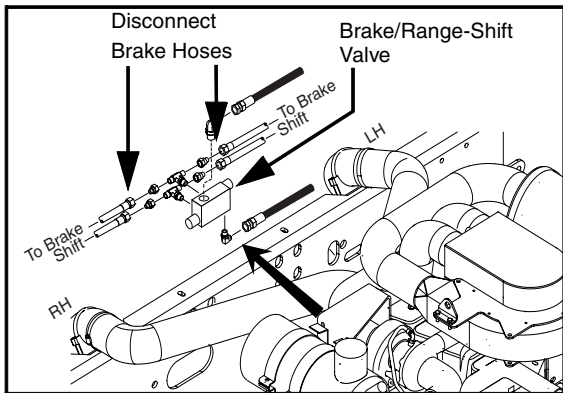
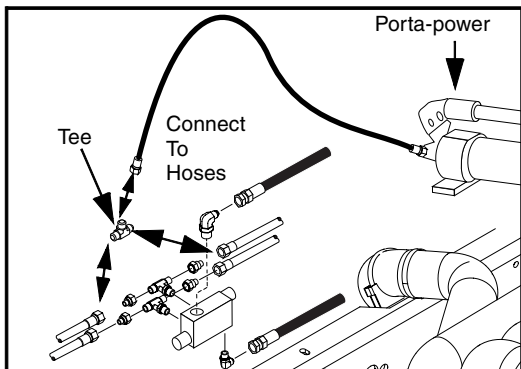

Figure 45. Preparing to Release Brakes
Figure 46. Releasing Brakes with Porta-power
- 2) Disconnect brake hoses from brake/range-shift solenoid valve located on right-hand rear of engine (Figure 45) and (Figure 46) . Place caps on the valve fittings to keep dirt out of the hydraulic system.